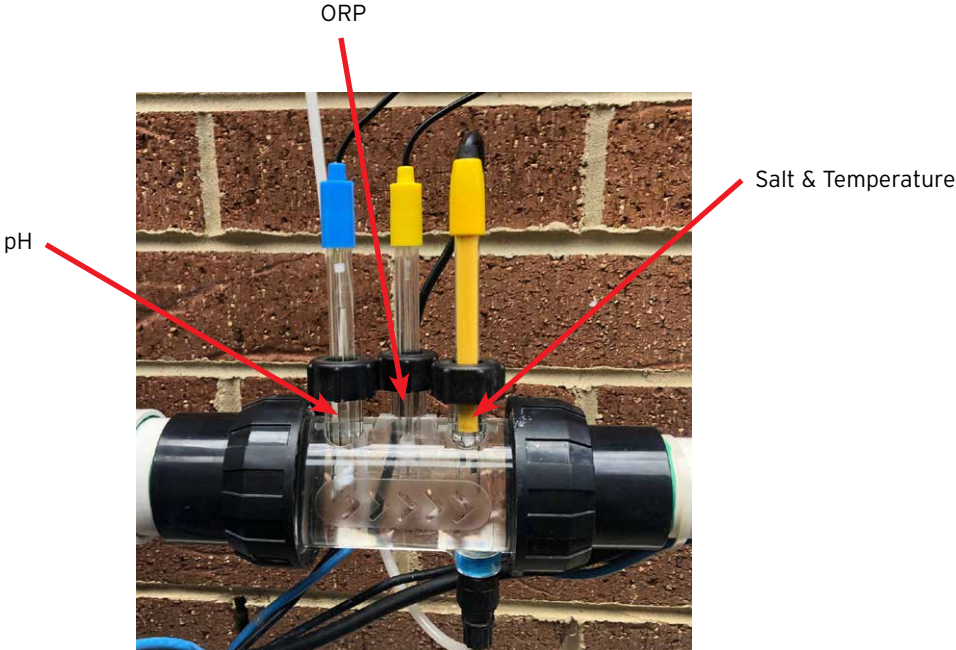

Figure 6.13
- The probe can then be removed from the pH calibration solution and installed into the probe and injection housing. The injection housing has written in the moulding which probe is mounted where (refer Figure 6.13)